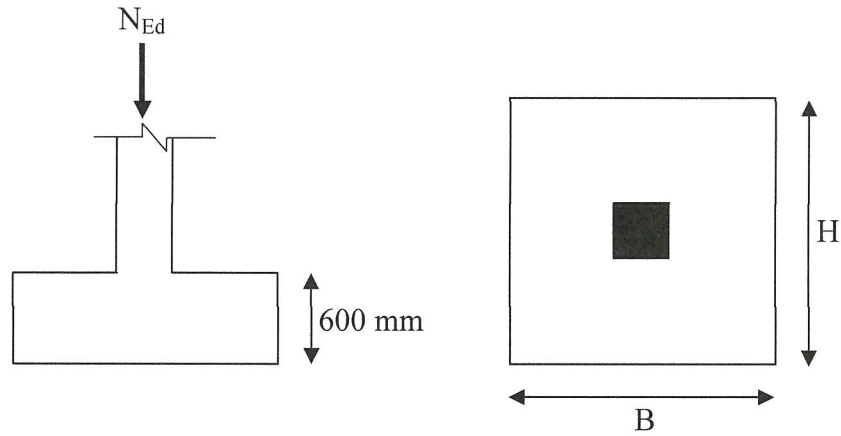

FIGURE Q3
- Q3** The square pad footing, as shown in **FIGURE Q3**, is subjected to permanent action of 1200 kN and variable action of 250 kN from a 300 mm square column. The pad footing has 2.78 m² base and thickness of 600 mm. The characteristic material strength for concrete is 30 N/mm² and rebar yield strength is 500 N/mm².